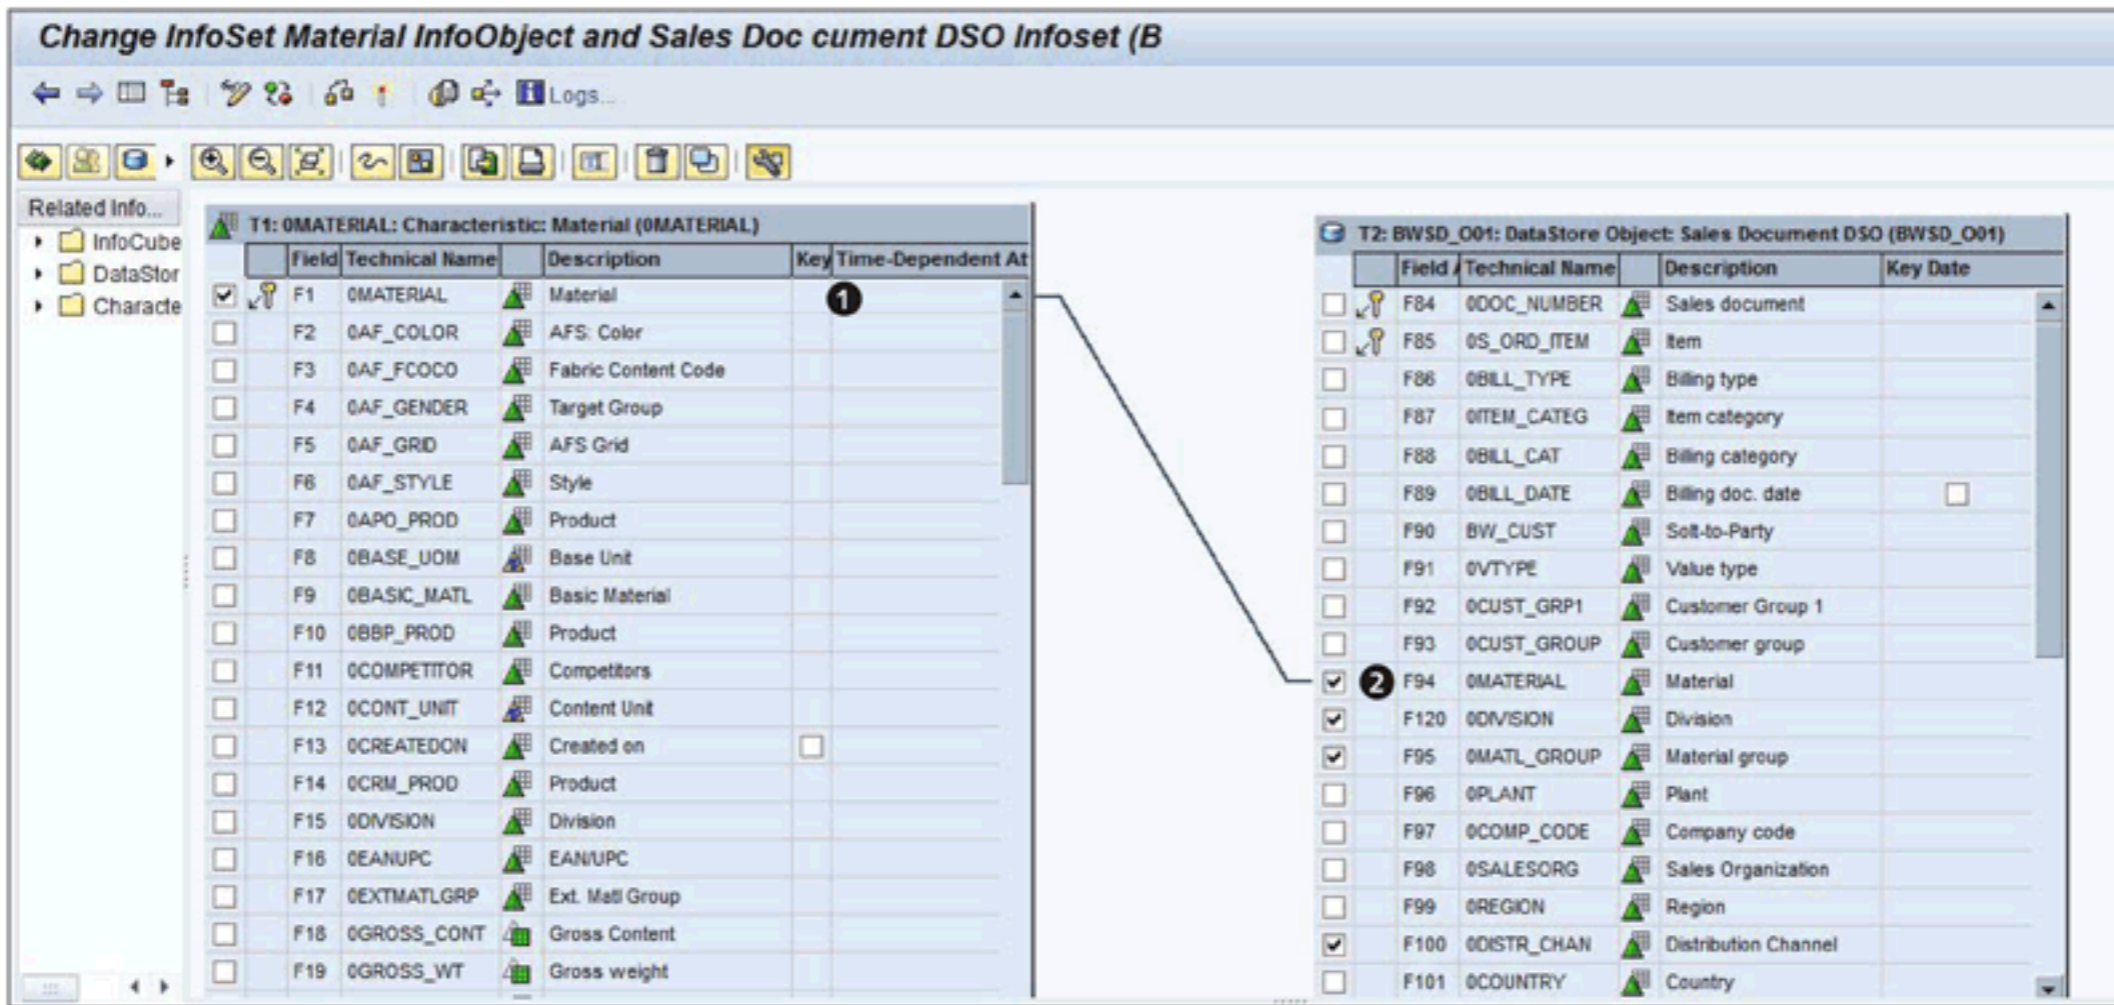

Figure 6.25 Joining Two Sources
SAP NetWeaver BW now creates a join between field 0MATERIAL of source object T1 and field 0MATERIAL of source object T2. This is shown as a link from ❶ to ❷ in Figure 6.25. Internally, SAP NetWeaver BW makes this a join condition similar to $T1.0MATERIAL = T2.0MATERIAL$.